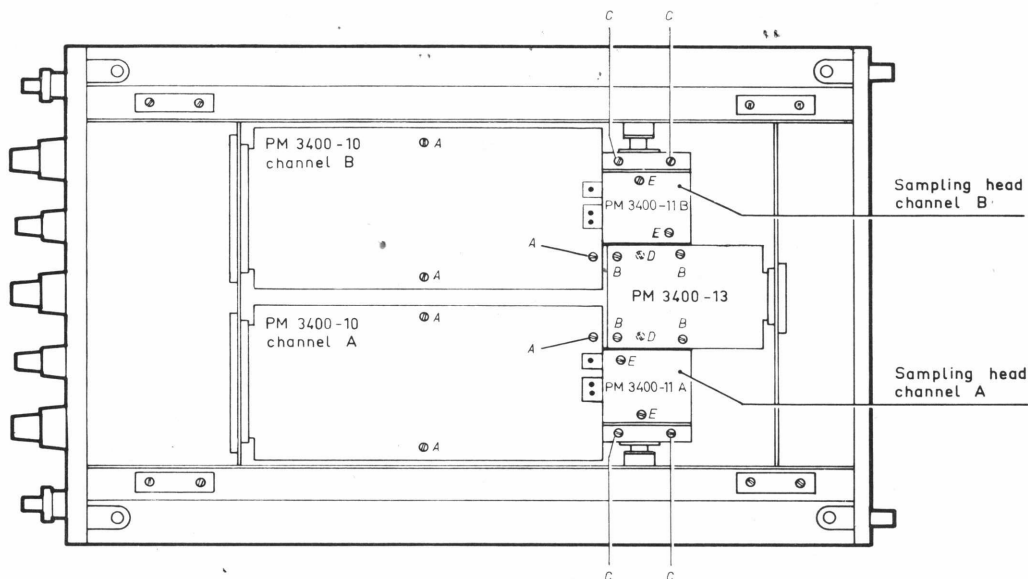

Fig. IX-9 Removing printed-wiring cards
- Remove the three screws A (see Fig. IX-9).
M. REMOVING PRINTED-WIRING CARD 13 (Fig. IX-9)
N. REMOVING THE SAMPLING HEAD (Figures IX-9 and 10)
O. MOUNTING THE SAMPLING HEAD (Figures IX-9 and 10)
P. GAINING ACCESS TO THE SAMPLING DIODES Z1201-Z1202 (Figures IX-9, 10 and 11)